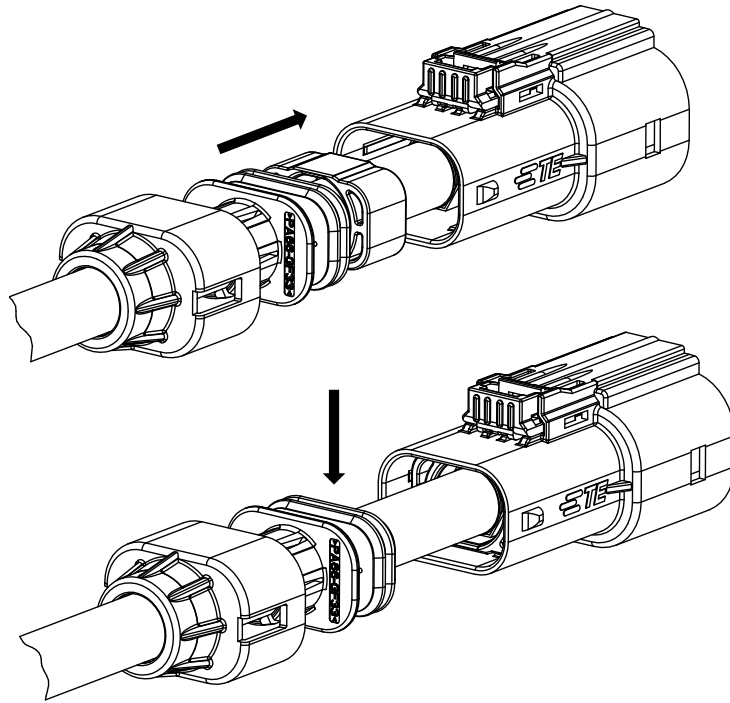

Figure 16
15. Slide the spacer forward on the cable and into the cable exit end of the connector assembly until it stops against the inside of the connector outer housing as shown in Figure 16.